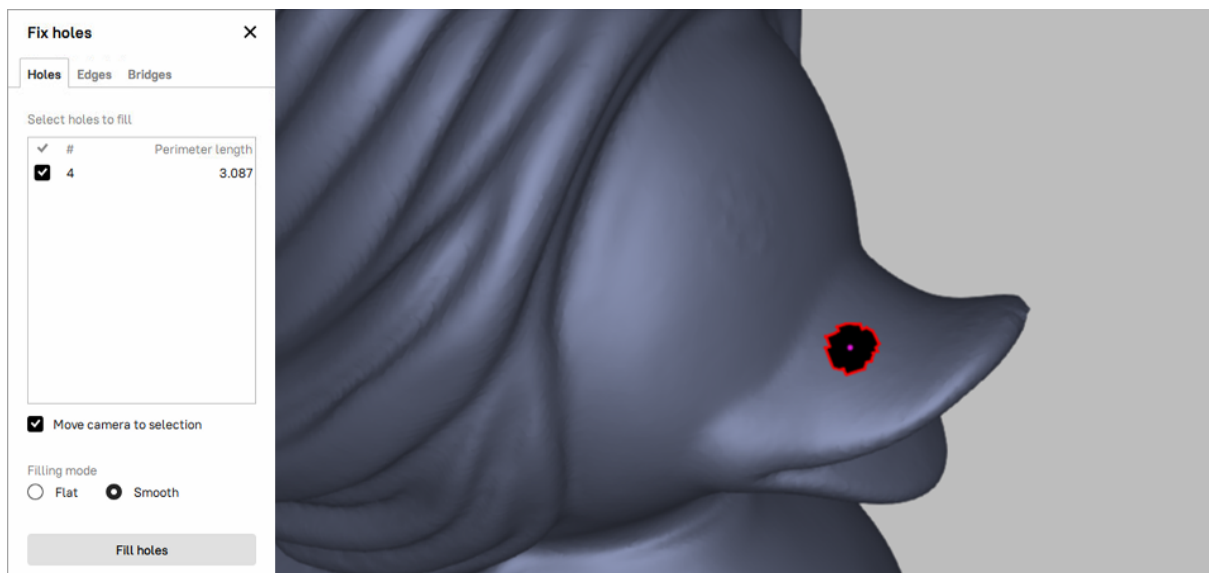

Figure 170: One hole on a curved surface, marked for correction.
3. Select a hole either in *3D View window* or mark the checkbox next to it in the list. Artec Studio will highlight these holes in red (see Figure 170).